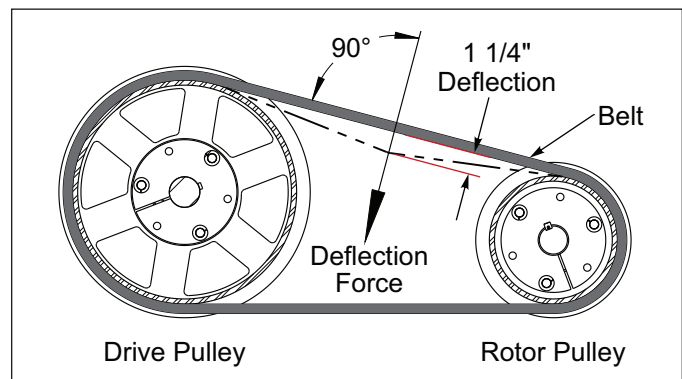

Figure 4-5: Belt Tension
1. Check Belt tension by using a Spring Scale at right angles to the center of the Belt span. Hook the Spring Scale to one Belt and apply enough force to deflect the Belt 1-1/4". **See Figure 4-5.** Scale reading should be 20 lbs. Adjust tension as required. A new belt initial deflection force should be set at 30 lbs at 1-1/4" of deflection.